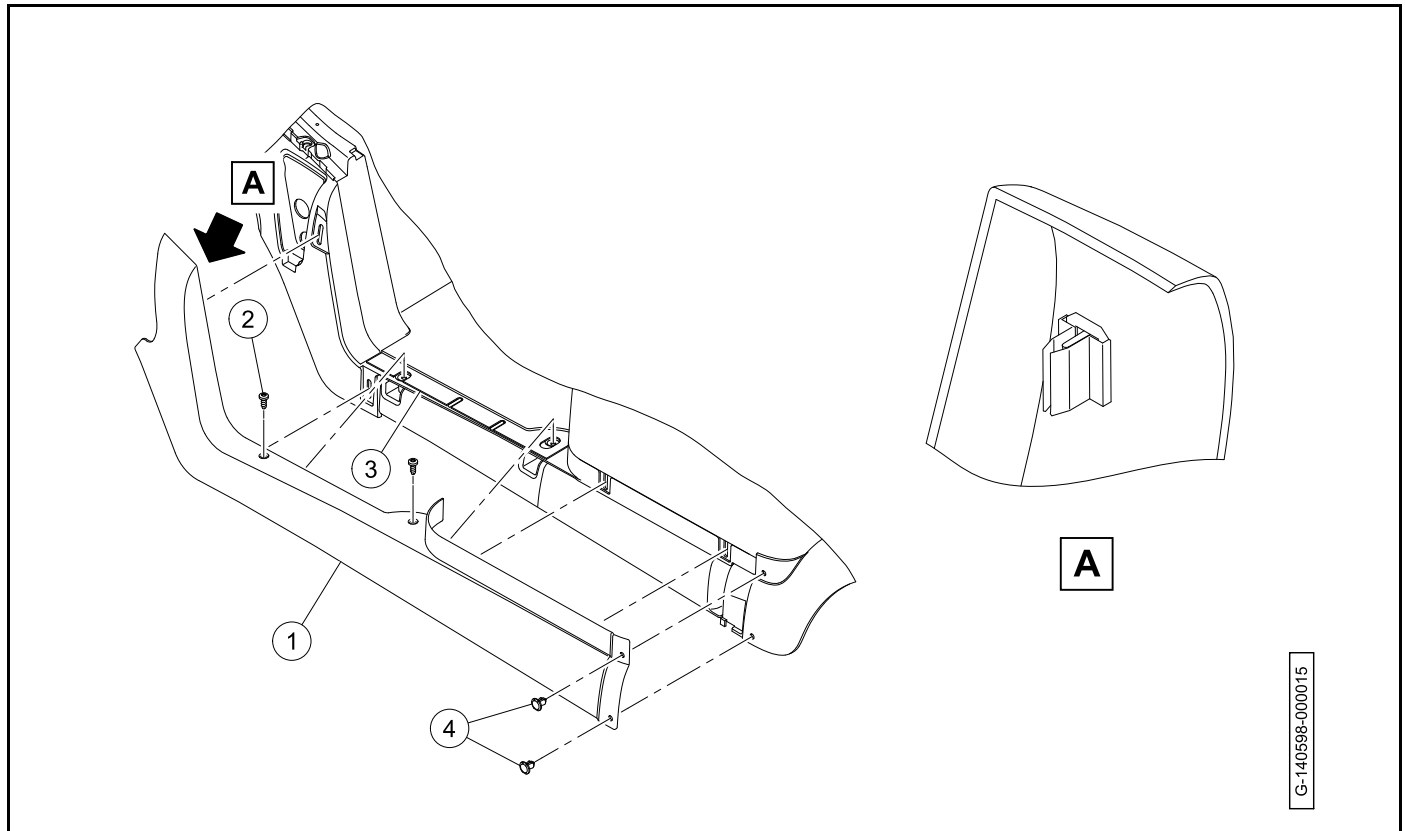

Figure 4-9 Floor Mat And Retainers
1. Remove the screws (2) (Figure 4-9).
2. Remove the floor mat (3) from under the floor mat retainers (1).
1. Install the floor mat (3) under the floor mat retainers (Figure 4-9).
2. Install the screws (2). Tighten the screws to 4.4 lb·ft (6.0 N·m).
2. Remove the push rivets (4).
3. Carefully pull on floor mat retainer (1) to separate the trim clips from their respective slots. Trim clips do not normally need to be removed from the retainer.
1. Position the floor mat retainer (1) on the vehicle and press firmly to engage the trim clips to the vehicle (Figure 4-9).
2. Make sure that the floor mat (3) is correctly positioned beneath the top flange of the floor mat retainer.
3. Install the two screws (2). Do not tighten the screws.
4. Install the push rivets (4) (**Figure 4-9, Page 4-13**).
5. Tighten the two screws (2) to 4.4 lb·ft (6.0 N·m).